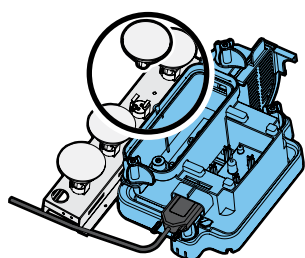

Fig.4
7. Remove the defective lamp, by gently lifting vertically and disengaging the pins from the lamp holder, (See Fig. 4 and 5). Replace with a Opti-myst, 12V, 45W, Gu5.3 base, 8° beam angle, coloured lamp. (Purchase lamps from your supplier)
8. Carefully insert the two pins of the new lamp into the two holes in the lamp holder. Push firmly in place. (See Fig.4 and 5).